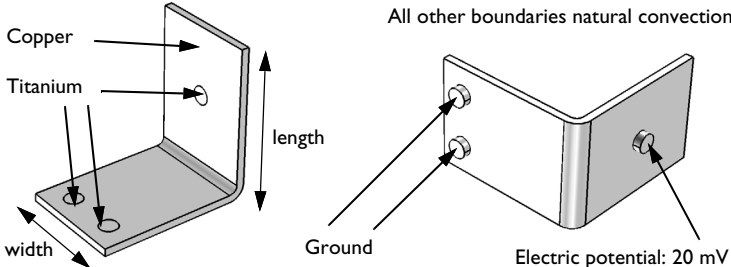

Figure 2: Material and boundary settings in the model.
- 4 On the object **fin**, select Boundaries 8 and 15 only. These are the bolt faces labeled with Ground in Figure 2.
- 4 On the object **fin**, select **Boundary 31** only. This is the bolt face labeled with **Electric potential** in Figure 2.